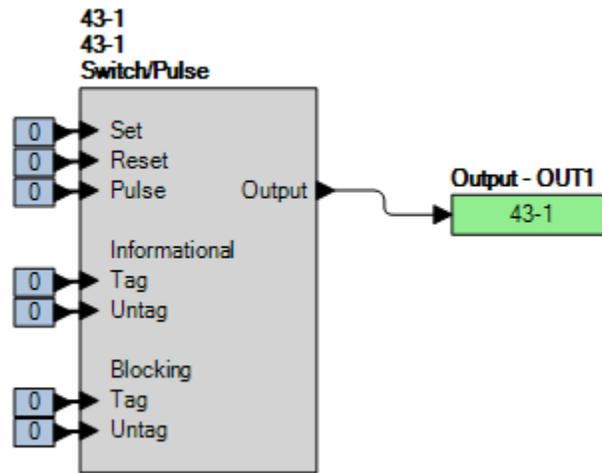

Figure 48-1. BESTlogicPlus Settings
Step 2: Use BESTCOMSPPlus to configure the BESTlogicPlus programmable logic shown in Figure 48-1.